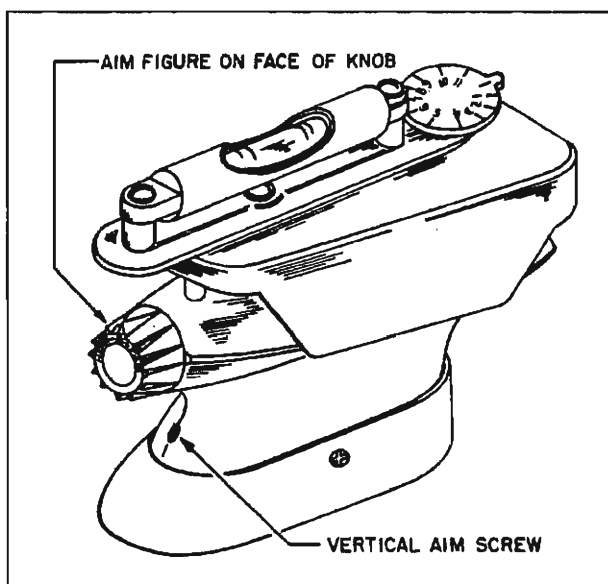

Fig. 12-18 Aiming Device - Installed
4. Set aiming device No. 6 on top of phototube unit. (Fig. 12-18)